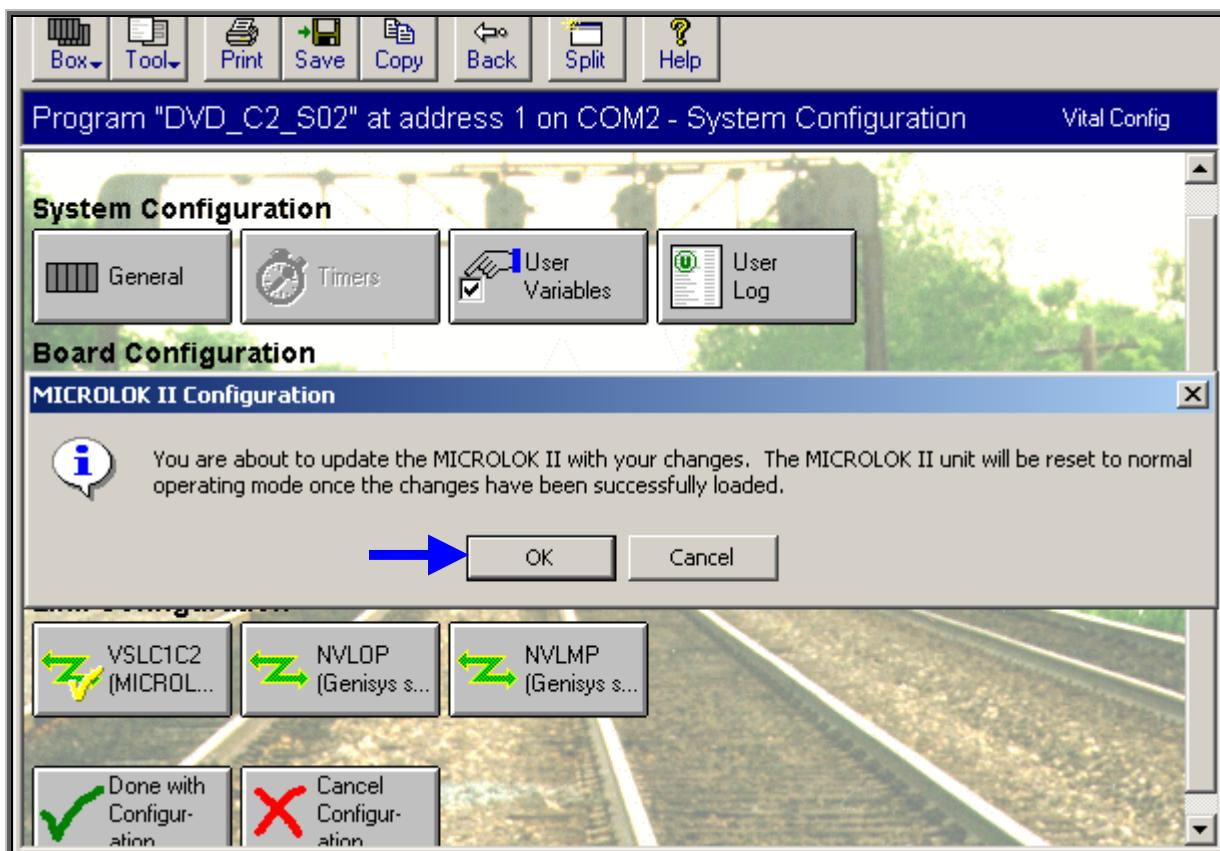

Figure-7.6.5
- ❖ This will present “**MICROLOK II Configuration**” dialogue box as shown in Figure-7.6.5.